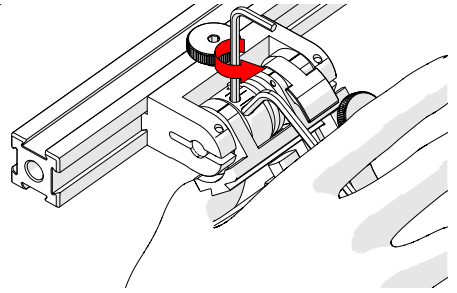

Fig. 101 - Press 3 mm hex wrench down
5. Lightly press the long arm of the 3 mm hex wrench down. Using the 2 mm hex wrench, loosen the force adjustment screw but do not remove it (*Fig. 101*).